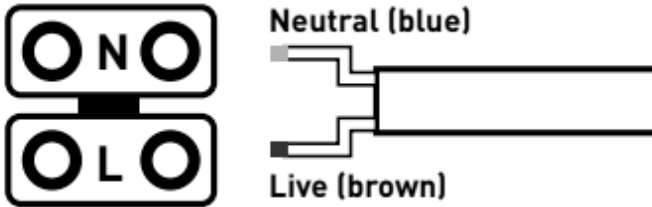

Fig 3
- Feed the cable through the rear of the access plate and ensuring correct polarity is observed carefully wire as shown in Fig 3